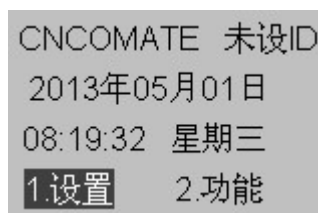

Figure 2-2
There are two pages of the setting interface, as shown in Figure 2-1 and Figure 2-2, pressing the Confirm button in the corresponding setting option will enter the setting interface required by the user, as described in item 3 - item 11 below. When the Back option, press the OK key, and you will be returned to the Home page Figure 1-1.